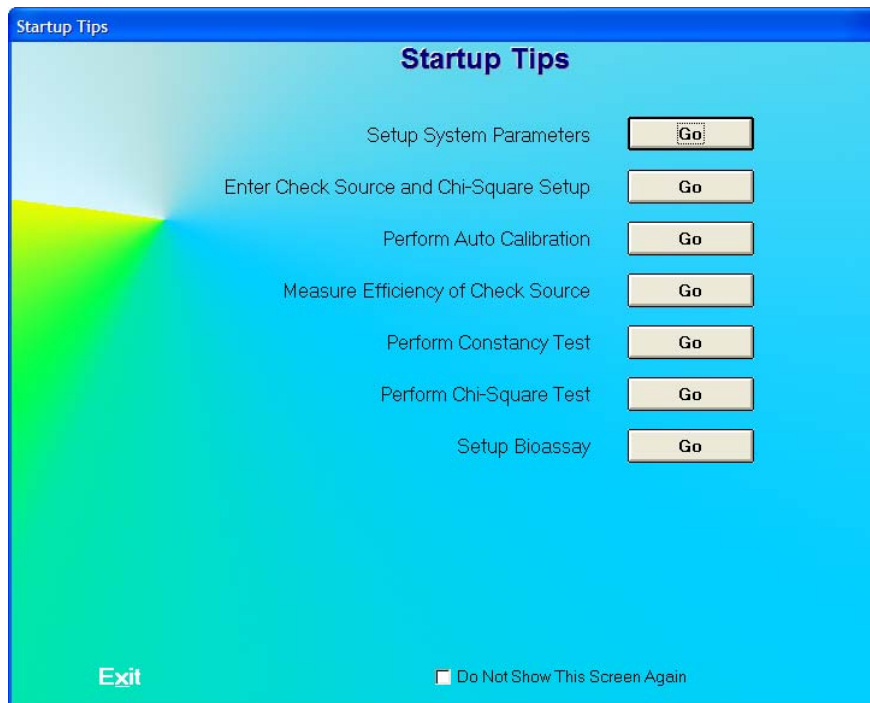

Figure 4-8 Startup Tips Window
If this is the first time the Absorbed Dose ALERT software is run, the Startup Tips window will be displayed as shown in Figure 4-8 Startup Tips Window.
- Click the **Done** button or press *Alt+D* to save the changes or click the **Cancel** button or press *Alt+C* to exit without saving the changes. Figure 4-8 Startup Tips Window will re-appear.